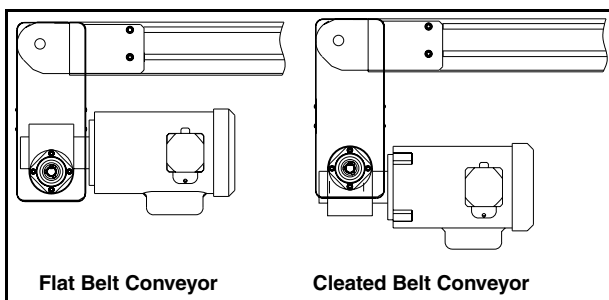

Figure 2
For Cleated Belt Conveyors, Gearmotors must be mounted as shown in Figure 2. Failure to do so creates pinch points which can cause severe injury.
*Gearmotor position on Flat Belt conveyor shown below left, **Figure 2**. Gearmotor position on Cleated Belt conveyor shown below right, **Figure 2**.*